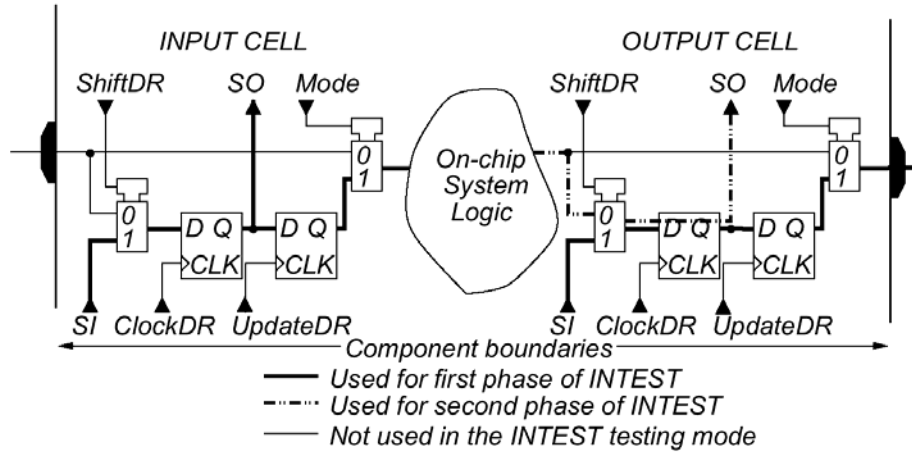

Figure 8. Circuit for Problem 9.
9. (10 pts extra credit) Figure 8 shows two boundary scan cells surrounding some on-chip system logic. We test the path from the INPUT boundary scan cell, through the on-chip system logic, and ending at the OUTPUT boundary cell. The JTAG (IEEE 1149.1) commands are: SAMPLE, PRELOAD, EXTEST, INTEST, RUNBIST, CLAMP, IDCODE, USERCODE, HIGHZ, and BYPASS. Please explain the sequence of these commands used for delay fault testing of this particular path and the action and purpose of each command used.